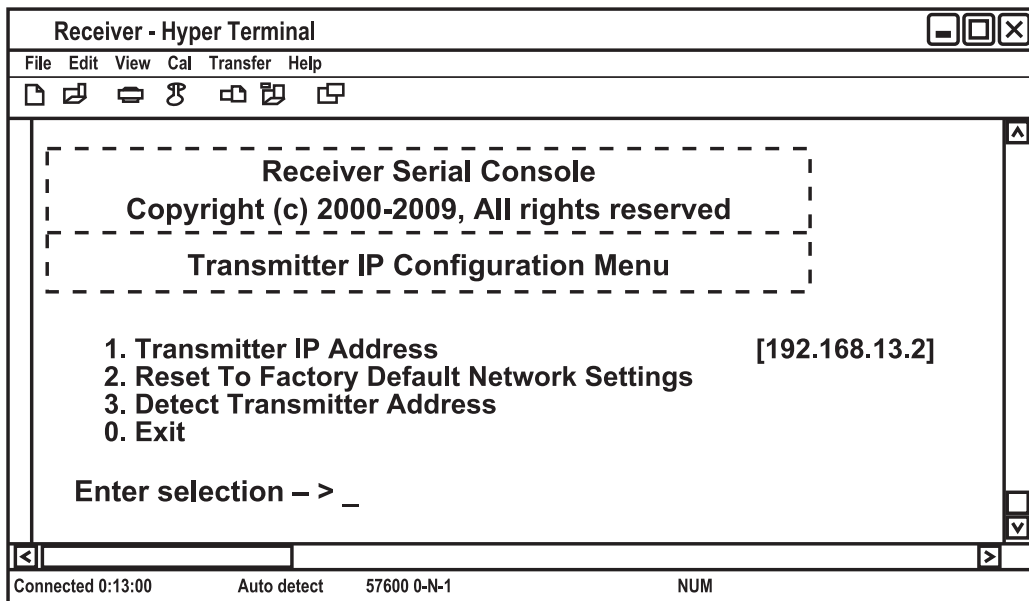

Figure 4-21. Transmitter IP Configuration Menu on the DTX Receiver.
4. Press "2" to select Transmitter IP Config and press "Enter." The Transmitter IP Config menu (see Figure 4-21) will appear. The old Transmitter IP Address is displayed beside menu option 1.